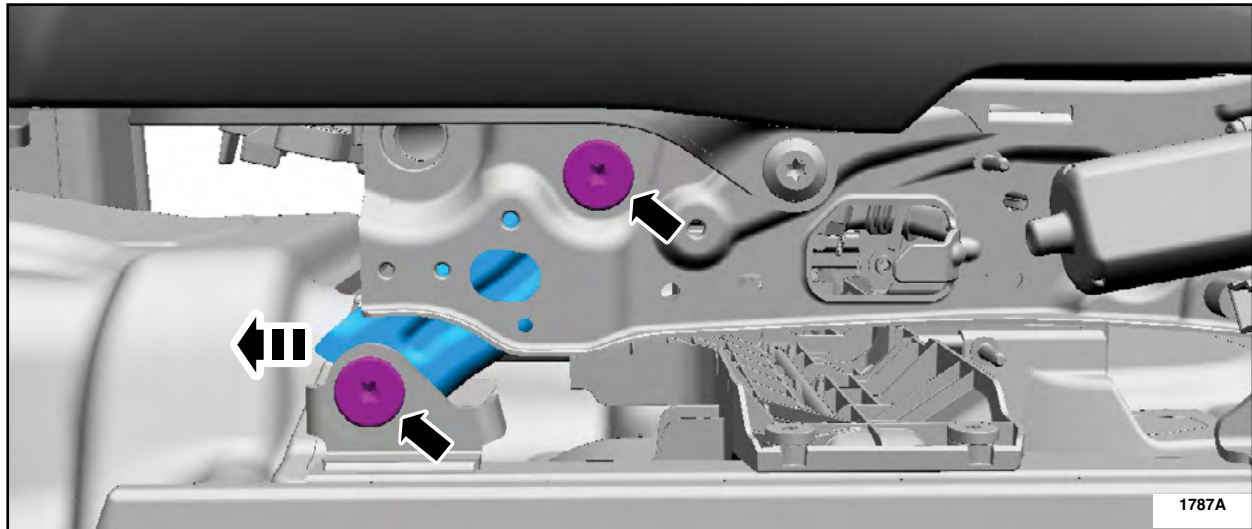

FIGURE 4
1. Remove the seat track pivot link bolts and pivot link. See Figure 4.
4. *Install the new pivot link. See Figure 4.*